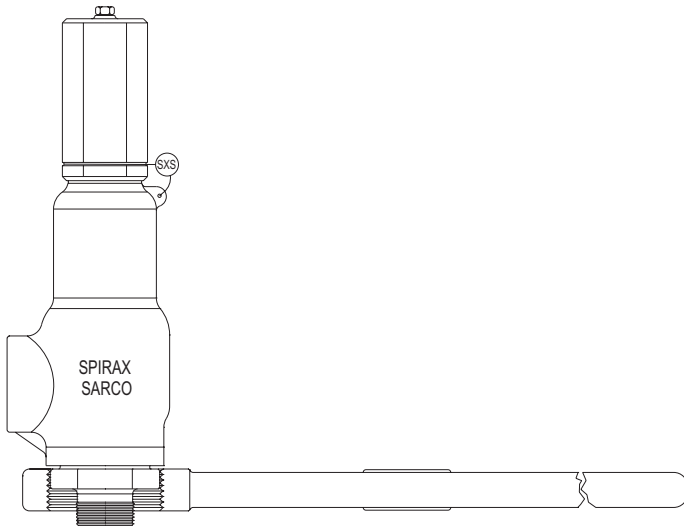

Figure 01
- Valves with threaded connections must be installed using the wrenching tool in the body **(01)**. Never use the bonnet **(22)** or this thread for this purpose, this will affect the set pressure and valve performance **(Figure 01)**.